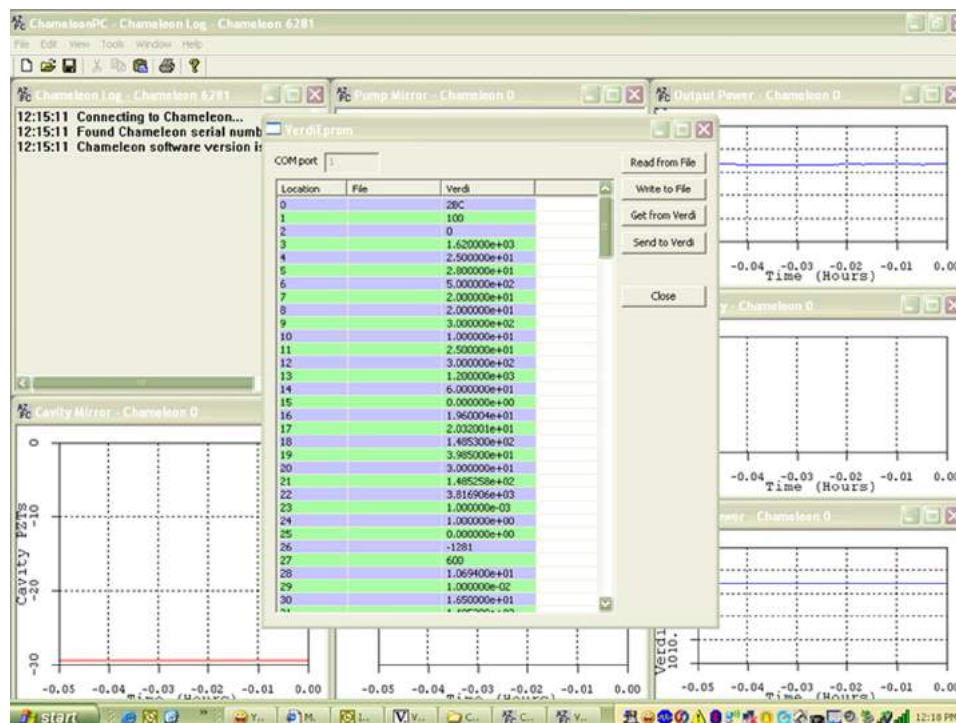

Figure 5.13-2. Verdi EEPROM Editor
8. Click “Tools” again. This time click on “Verdi Eprom Editor”. It will be necessary to click on “Get from Verdi” to load the displayed table (Figure 5.13-2).